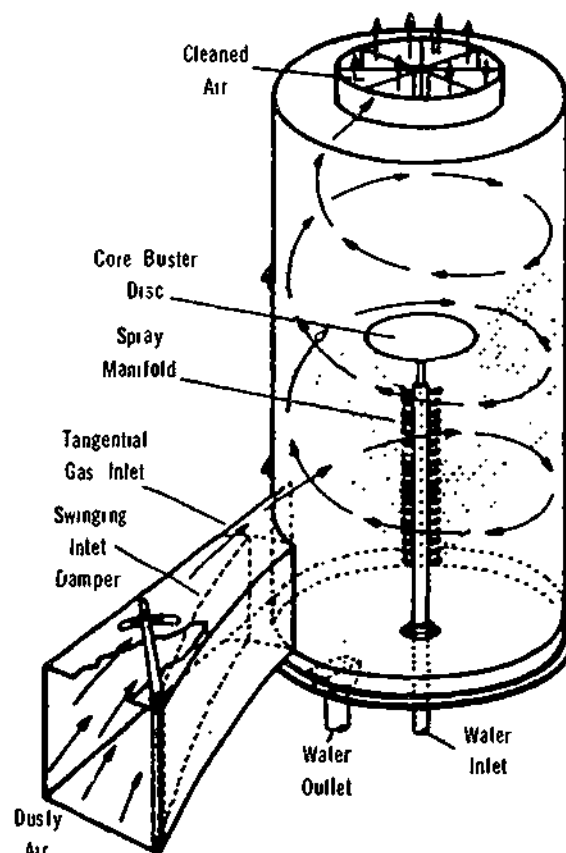
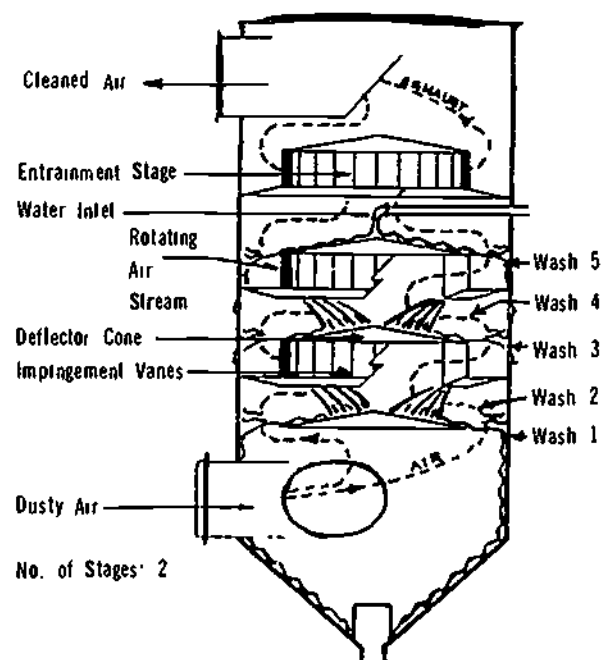

Figure 11-7. Cyclone Spray Chamber
Figure 11-8. Cyclone Spray Chamber
**Cyclone Spray Chambers** Cyclone spray chambers combine liquid scrubbing with cyclonic action. In the type illustrated in Figure 11-7 the dust-laden gas is given a whirling motion, as in a cyclone, and water is sprayed radially across the gas stream. In the spray chamber illustrated in Figure 11-8 the gas stream is rotated and liquid dispersion obtained by a series of guide-vanes or impingement plates.